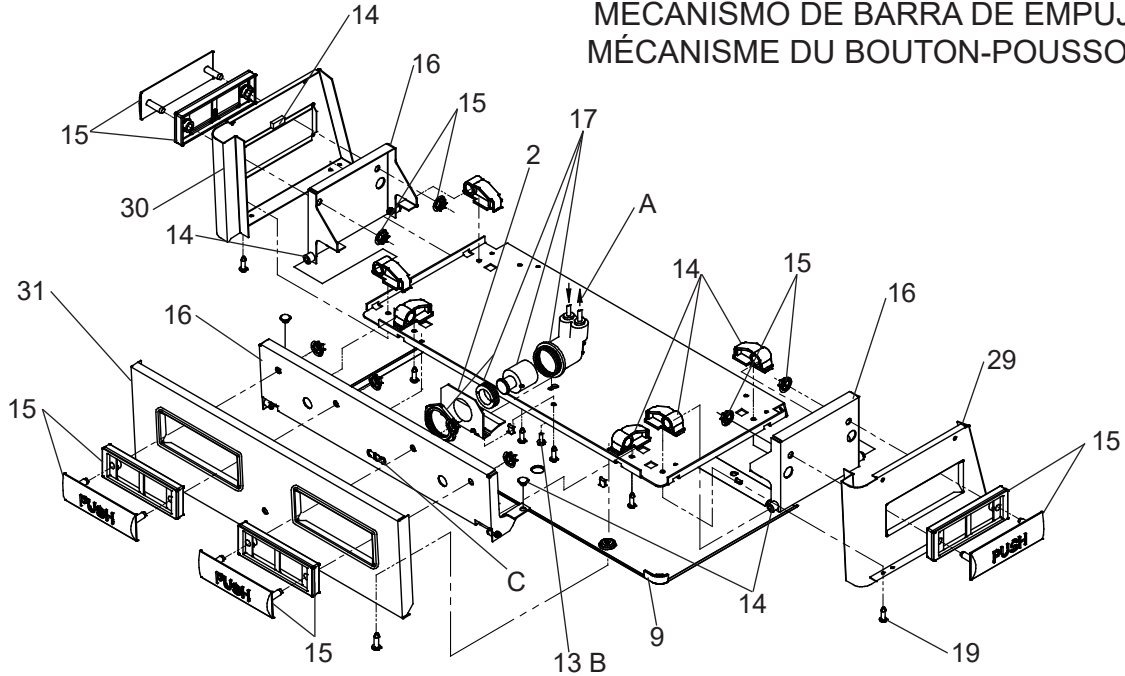

FIG. 4
- 8) Stream height is factory set at 45-50 PSI. If supply pressure varies greatly from this, readjust stream height to approximately 1-1/2" (38mm) above the bubbler guard by turning adjustment screw, accessible by removing front push panel (See Fig. 4 & 5). Replace the front panel and secure by retightening four (4) screws.